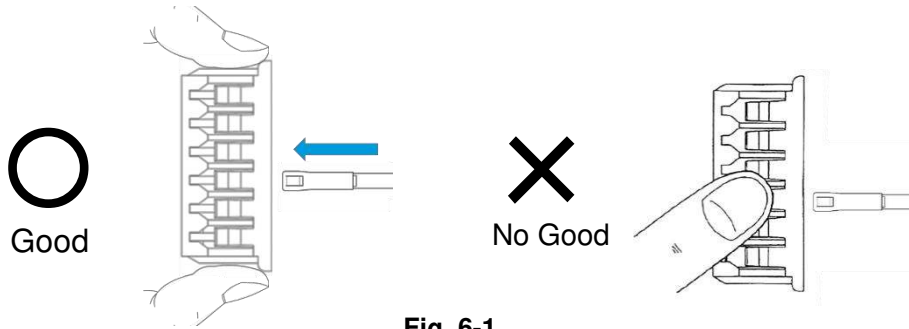

Fig. 6-1
- ※ Don't hold on mold lance when you insert crimping wire to receptacle housing. (Fig.6-1)